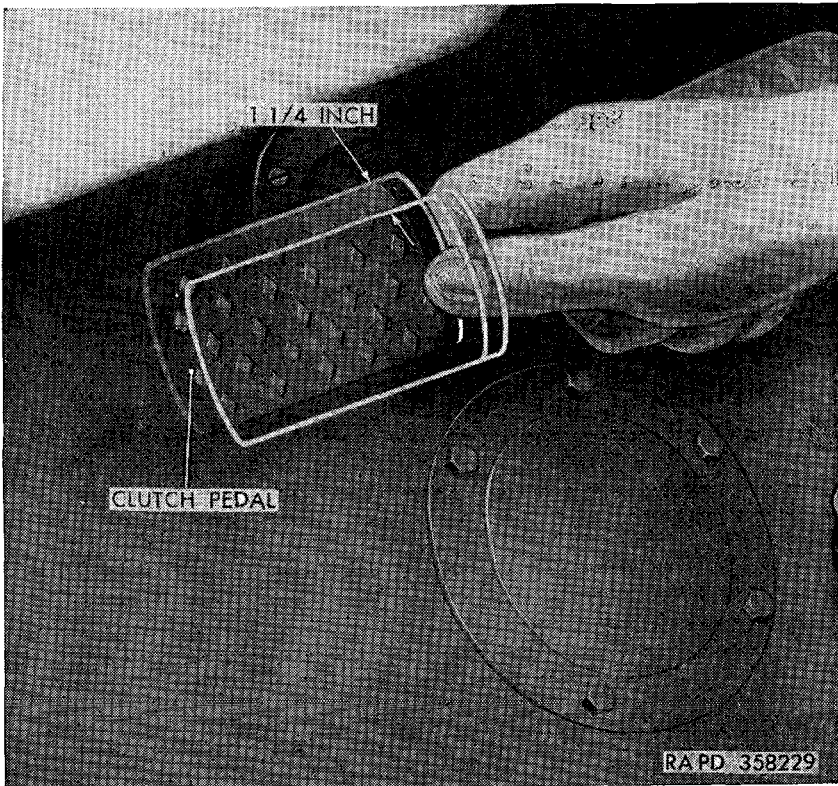

Figure 121. Clutch pedal free travel.
*a.* As the clutch facings wear, the free travel of the clutch pedal diminishes. Check the clutch pedal free travel (fig. 121) periodically to make certain the clutch pedal has at least  $1\frac{1}{4}$  inches of free travel before the clutch starts to disengage.